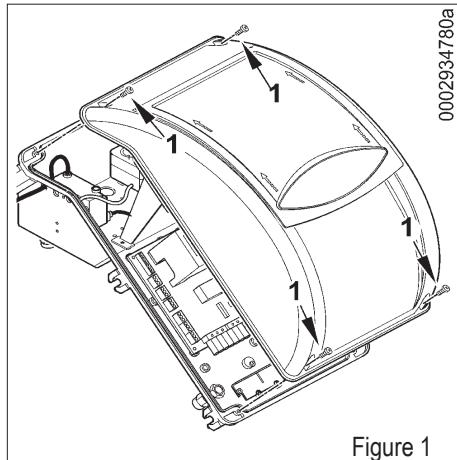

Figure 1
- Remove the lid by unscrewing the 4 screws (1) in figure 1, without removing the transparent door. In this way the burner's electrical panel can be accessed.